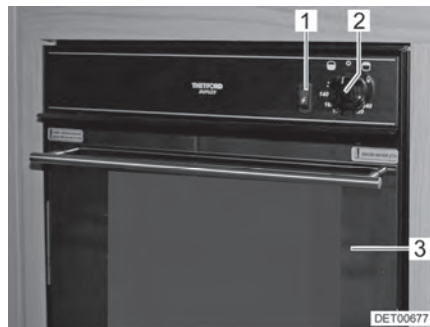
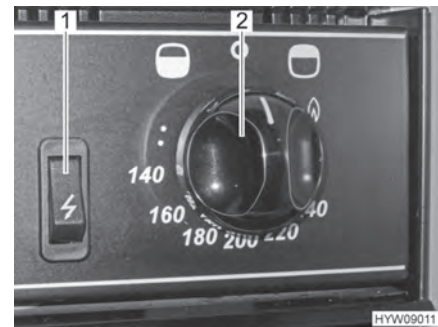

Fig. 118 Gas oven with grill
Fig. 119 Operating controls (gas oven with grill)
- Fully open the oven flap (Fig. 118,3).
- Press the control knob (Fig. 118,2 and Fig. 119,2) and set it to the maximum setting anticlockwise (towards the oven symbol "🍲").
- Press the control knob (Fig. 118,2 and Fig. 119,2) and hold it down for 5 to 10 seconds. Gas will stream into the burner.
- Keep the ignition switch (Fig. 118,1 and Fig. 119,1) pressed until the flame burns.
- Press the control knob (Fig. 118,2 and Fig. 119,2) and turn it clockwise (towards the grill symbol "☪") in the direction of the flame symbol.
- Turn the control knob (Fig. 118,2 and Fig. 119,2) to "O". The flame fades.